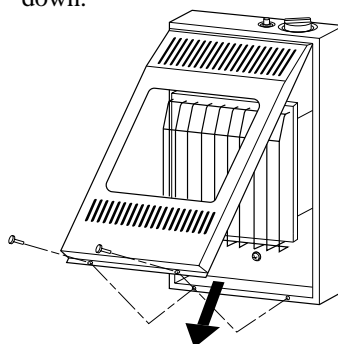

Figure 10 - Removing Front Panel Of Heater
1. Remove front panel (see Figure 10, page 7).